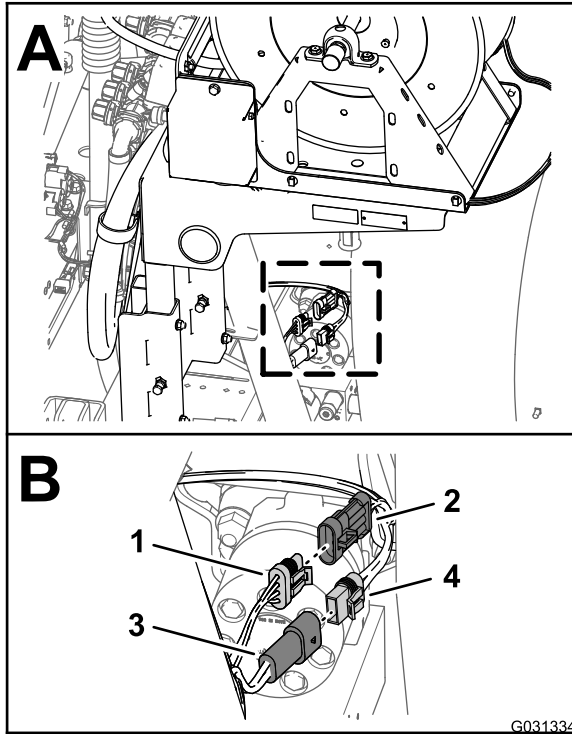

Figure 10
1. At the back of the machine, locate the wire harness for the pivoting hose-reel kit at the back of the sprayer tank (Figure 10).
2. Disconnect the 2-socket connector of the harness for the electric hose reel from the 2-pin connector of the rear, main harness (Figure 10).
3. Disconnect the 3-pin connector of the harness for the electric hose reel from the 3-pin socket of the rear, main harness (Figure 10).